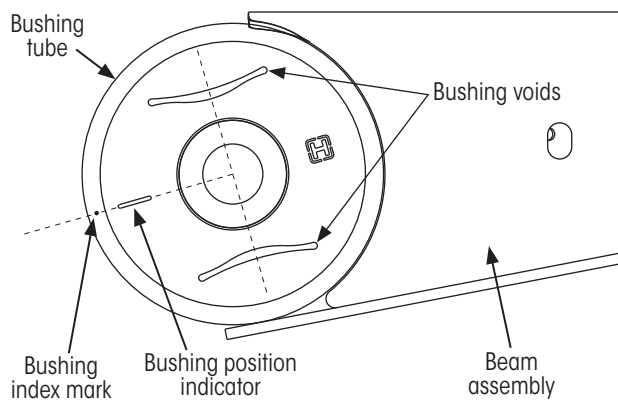

Figure 10: Bushing orientation within the bushing tube
1. With the beam assembly lowered, **locate** the bushing index mark on the bushing tube (Figure 10).